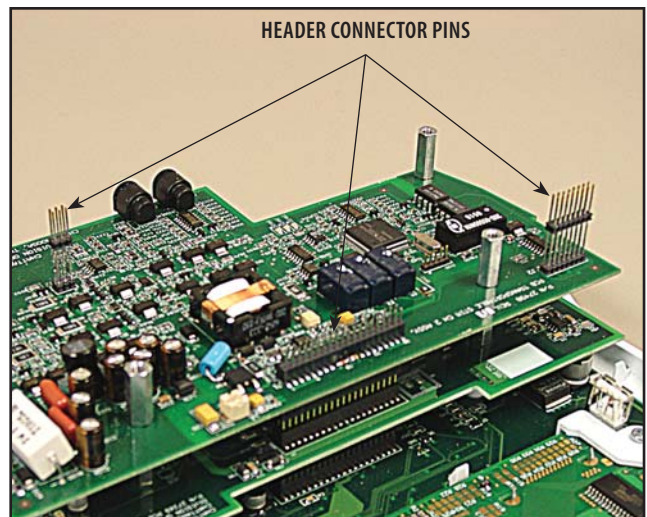

FIGURE 6.11
3. Carefully lift the Channel 1 Stim Board from the unit. Make certain not to bend any of the Header Connector Pins on the board below during removal. **See Figure 6.11.**
4. Replace Channel 1 Stim Board in reverse order of preceding steps. Make certain all Header Connector Pins are properly engaged. **See Figure 6.11.**